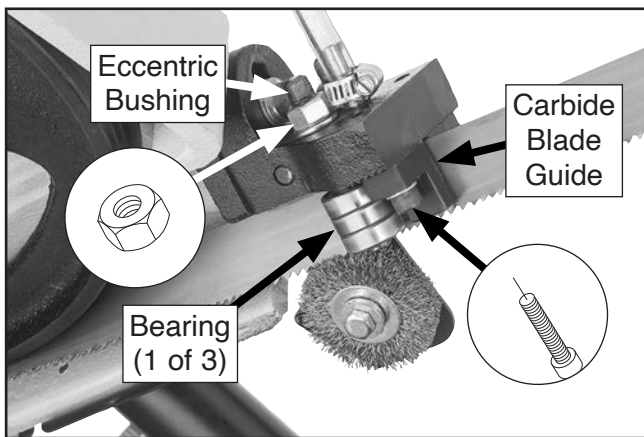

Figure 77. Blade guide components (lower blade guide shown).
Each blade guide assembly includes a carbide blade guide, an eccentric bushing, and three bearings (see **Figure 77**). The eccentric bushings allow the distance between the blade and bearings to be adjusted.
4. Loosen hex nut on eccentric bushing of bearings that needs adjustment (see **Figure 77**).
5. Turn eccentric bushing until bearings make light contact with blade or have clearance of 0.001"–0.002" (see **Figure 77**).
8. Loosen cap screw shown in **Figure 77** for carbide blade guide that needs adjustment.